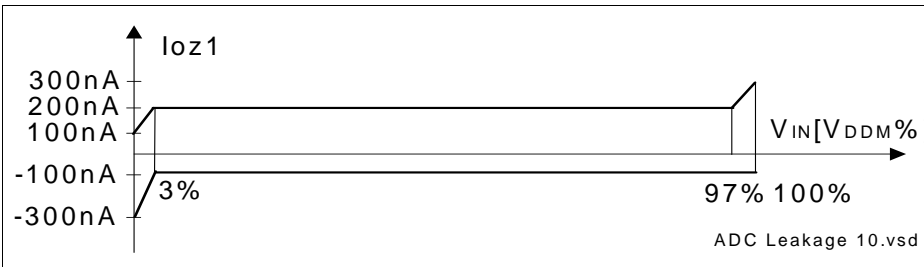

Figure 21 ADC0/ADC1 Analog Inputs Leakage
- 11) The leakage current definition is a continuous function, as shown in **Figure 21**. The numerical values defined determine the characteristic points of the given continuous linear approximation - they do not define step function.